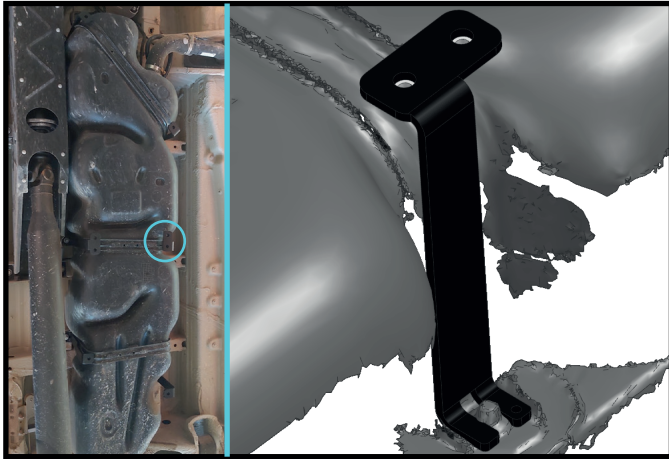

Fig. 5
5. Remove factory bolt. Fix the middle left bracket (item 6) using factory bolt as shown in fig.5.